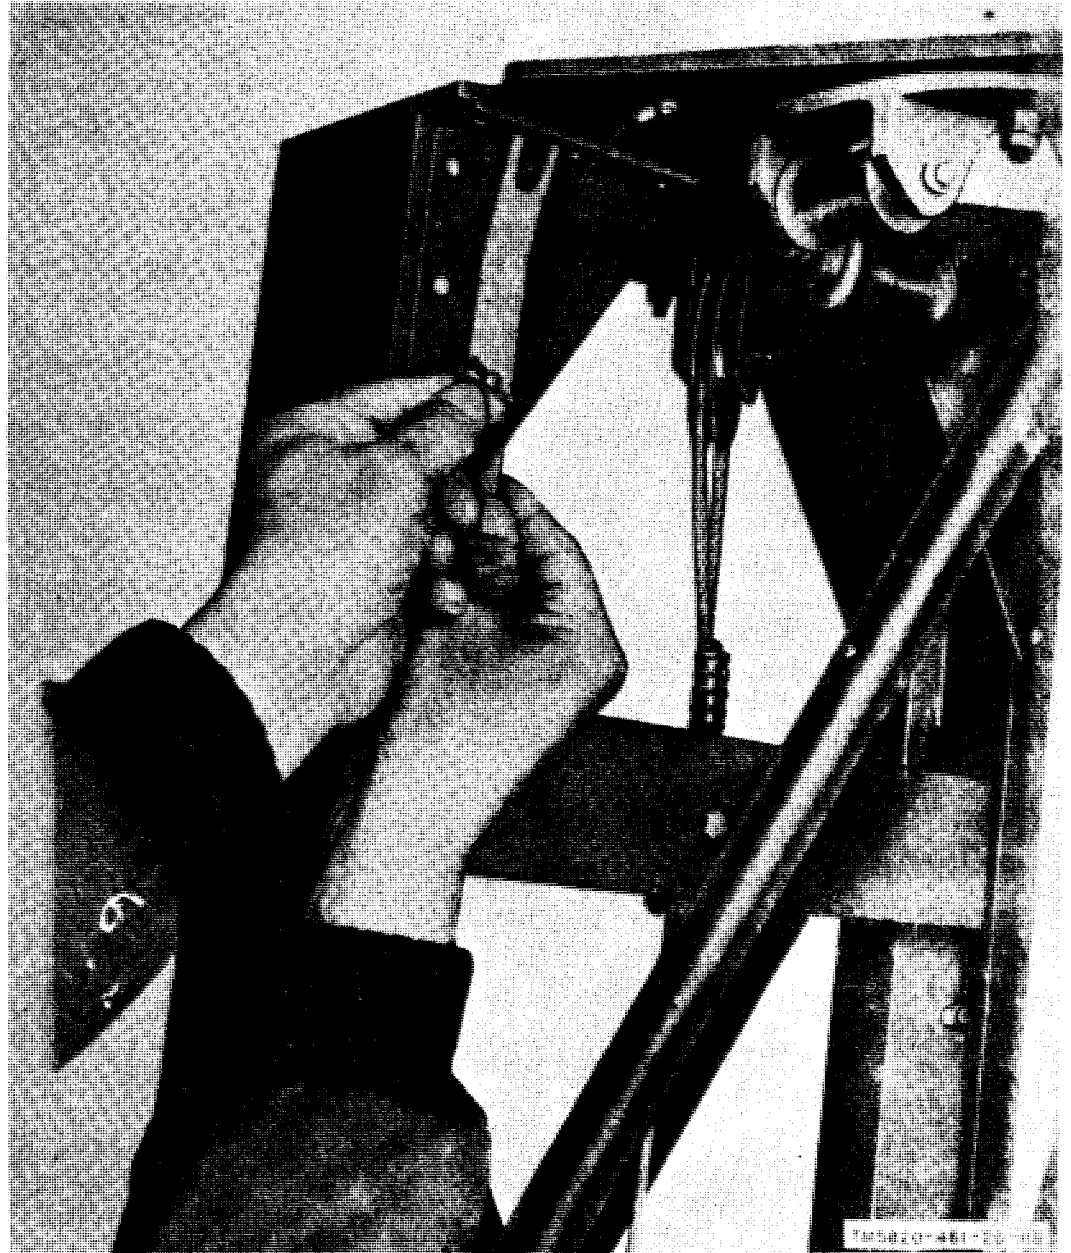

Figure 4-1. Releasing mast section coupler tool.
- (1) Release the mast section coupler tool (secured to the angle bracket under the top plate of the launcher frame (fig. 4-1)) by removing the locking pin.
- (2) Release the handbrake, and operate the winch to raise the mast sections
- (c) Position the mast section coupler tool over the angle bracket at the top of the launcher, and keep it in place with the locking pin (fig. 4-1).
- (1) Remove the GP-2 stakes that were used as hinges from the bottom of the launcher.